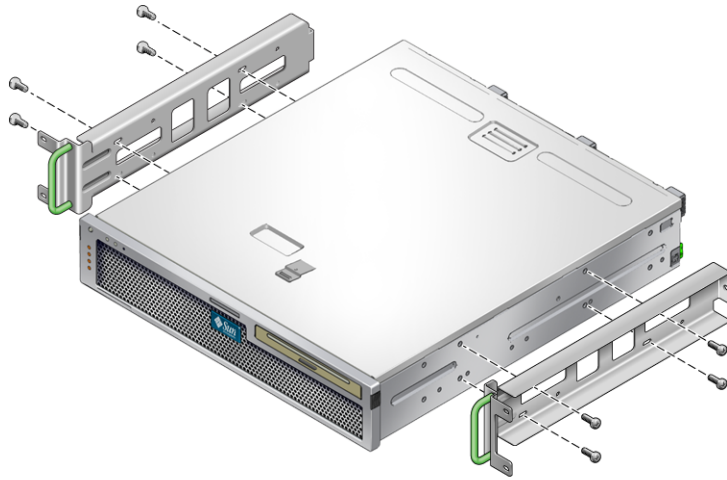

FIGURE 3-19 Securing the Side Rails to the Server
10. Using eight of the M5 × 10 SEM screws (four for each side rail), secure the side rails to the sides of the server (FIGURE 3-19).